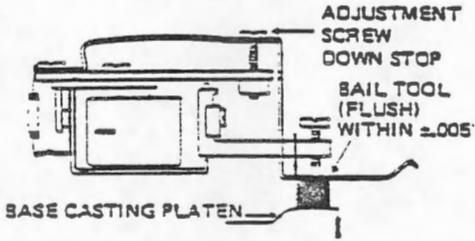

FIGURE 3 HEAD LOAD ACTUATOR DOWN STOP ADJUSTMENT
- d. Adjust down stop so that the top of Head Load Bail is flush with top of tool within $\pm .005"$ at track 76. Reference Figure 3.